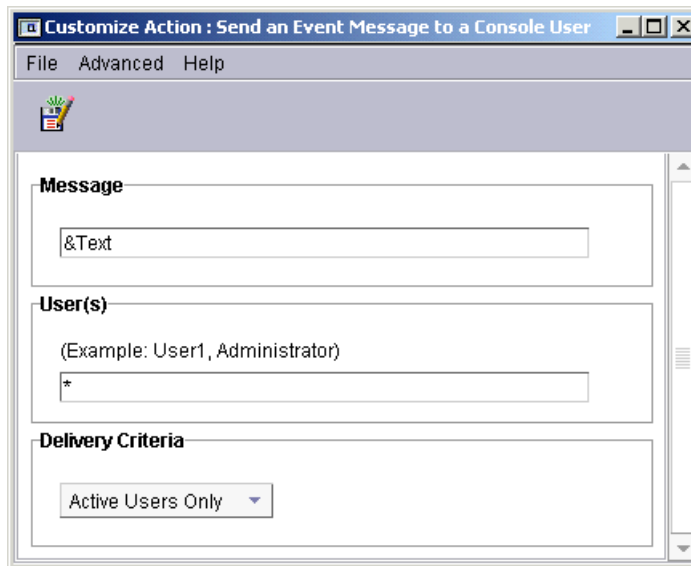

Figure 5-9 Customize action configuration window
8. A new window will appear. For the message, type &Text. This will show the error message in the pop-up window. For User(s), type *. This will cause the message to appear on all current Console users. See Figure 5-9 for more details.